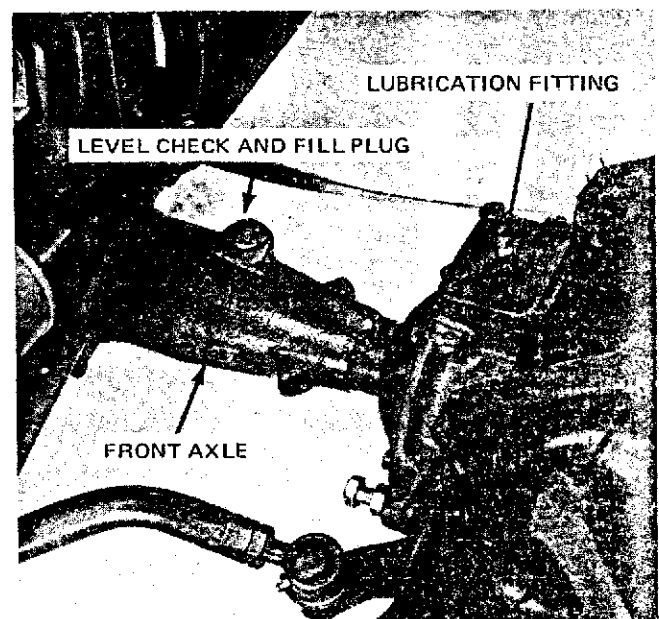

Figure 56 — King Pin Lubrication Points and Front Axle Differential Fill and Level Check Port
Grease the upper king pins, Figure 56, after every 50 hours of operation under normal conditions. In
**Checking Oil Level:** Check the oil level in the front axle differential case every 50 hours. A dipstick/fill plug, Figure 56, is located on the top right side of the axle housing. The oil level is correct when the oil level is between the mark and the dipstick tip.